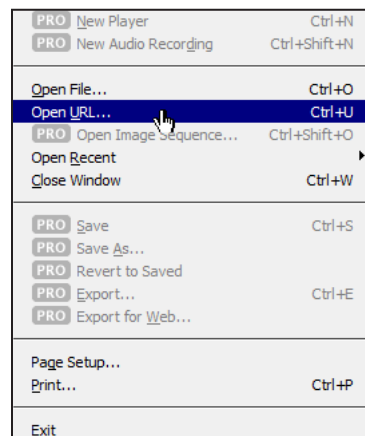

Figure 85. QuickTime Player Menu — Open URL
5. The QuickTime media player opens. From the **File** menu, select **Open URL** (see figure 85).